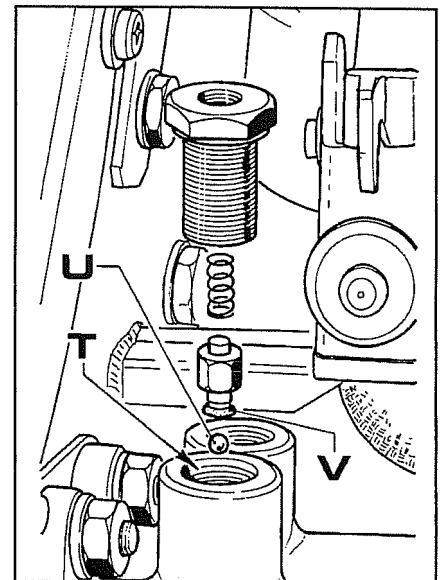
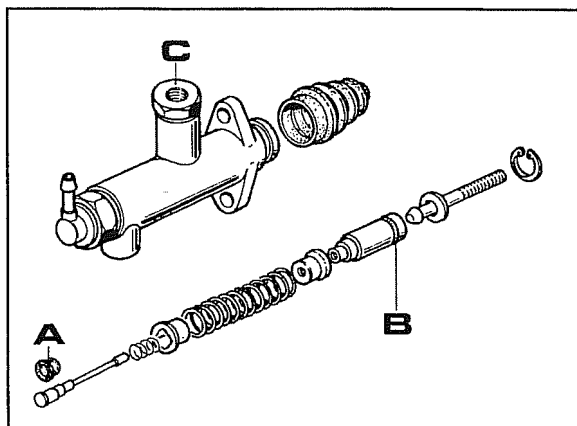

Fig. 5
Fig. 8
- 2 Fig.5 shows the parts of one of the two valves. Check if there is dirt between seating **T**, ball **U** and seal ring **V**. Check if seal ring **V** is intact and, if necessary, change it.
- e. Fig.8 shows the parts forming one of the two pumps. Check that there are no foreign bodies and check to make sure seal ring **A** is intact since these are causes of leaks within the circuit.
- f. If substitutions have to be made, it is always best to change all the seal rings comprising parts **V** Fig.5 and **A-B** Fig.8.
- 2 Dismantle the pump as shown in Fig.8.